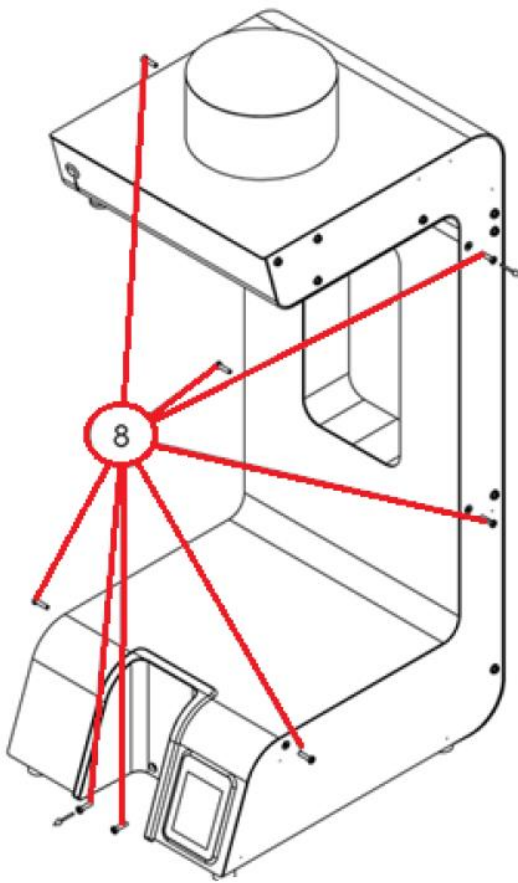

Fig 1.0
- Remove two securing screws in the drip tray as illustrated in Fig 1.0
- Remove the front s/s panel by locating and removing the 6 securing screws as illustrated in Fig 1.0 (8 screws in total, 6 side and 2 in the drip tray.)